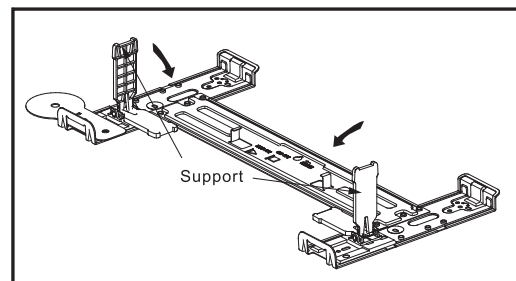

Fig. 18
- 7) Close the two supports on the wall mounting plate as shown in Fig. 18. Then move the unit step by step to reach the best installation, then press the unit into 2 down slots (Fig.19).